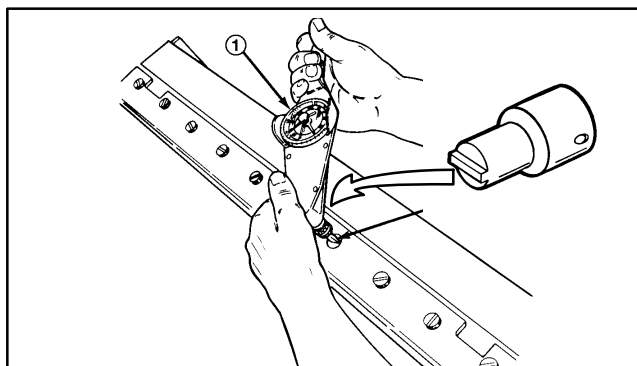

Figure 18
3. Begin with the center screw and tighten alternate screws toward each end using a torque wrench and bedknife screw tool. Tighten screws to a torque of 250 to 300 in-lb (288 to 345 kg-m). Make sure bedknife is flat against the bedbar (Fig. 18).